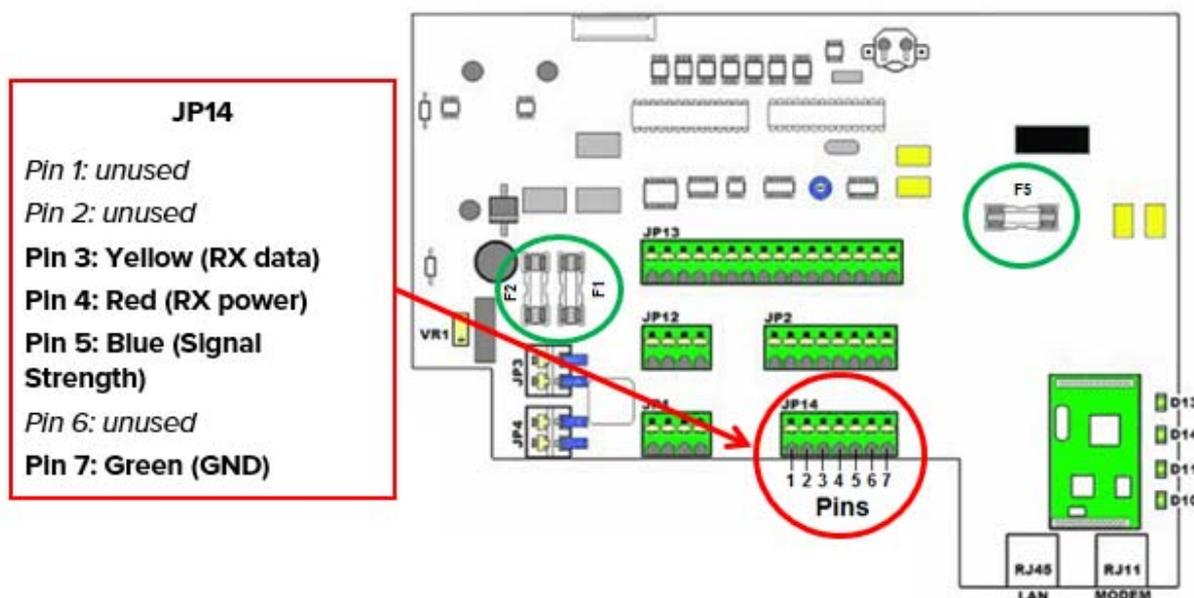

Figure 5
The Receiver Unit will come supplied with 3m of cable pre-wired to it. This should be wired to connector **JP14** in the **SR2**. See Figure 5 below.
2. Check that fuses **F1**, **F2** and **F5** are fitted (circled in green in Figure 5 above).